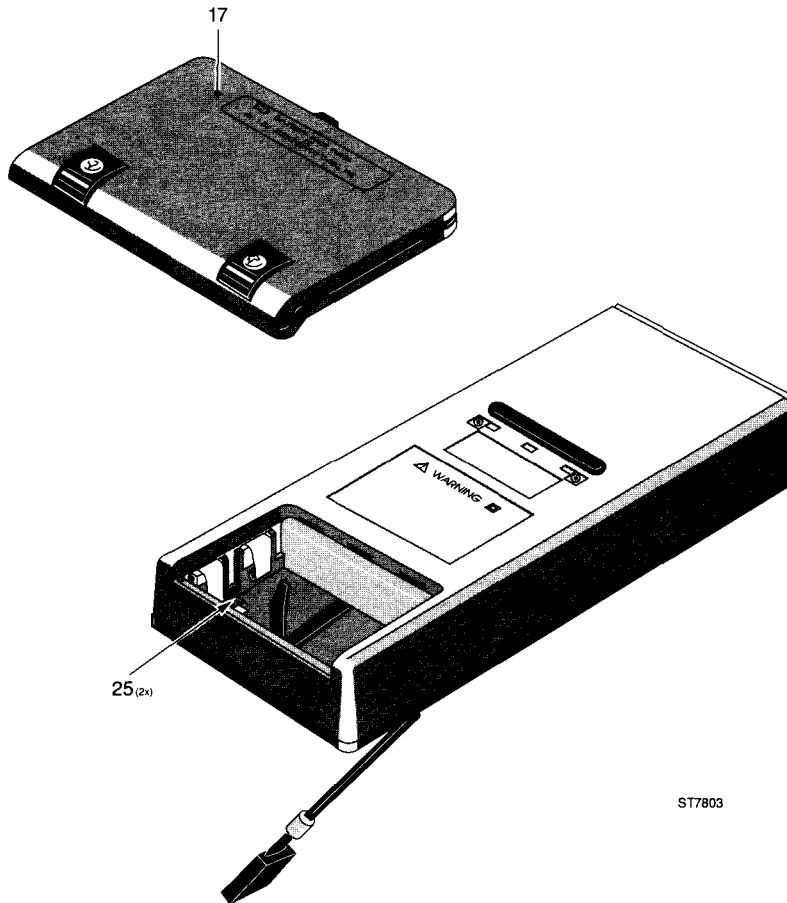

Figure 5.1 Position of the +12V and 0 contacts for calibration (items 25)
If you have removed the battery pack and the battery cover (figure 5.1, item 17), you will have access to the +12V/0 contacts (figure 5.1, item 25). These contacts are placed in the left middle (+12V) and the right middle (0) of the battery compartment. Connect +12V DC to the contact marked "+12V" and 0V to the contact marked "0".